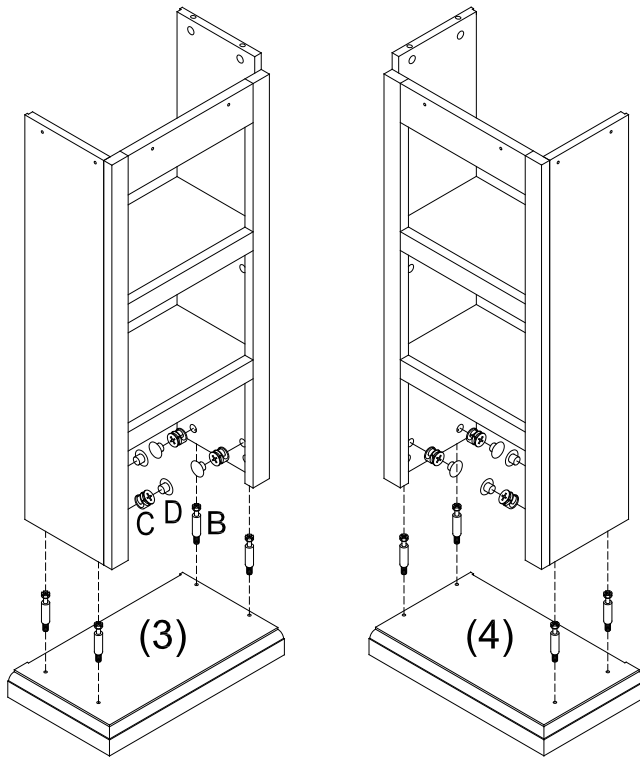

Figure 3
Attach assembled unit on figure 3 to Bookcase Top (1) and (2) by inserting Cam Bolts (B) into corresponding holes until Bookcase Top (1) and (2) and assembled unit on figure 3 meet.
Connect Bookcase Top (1) and (2) to assembled unit on figure 3 with Screws (F).